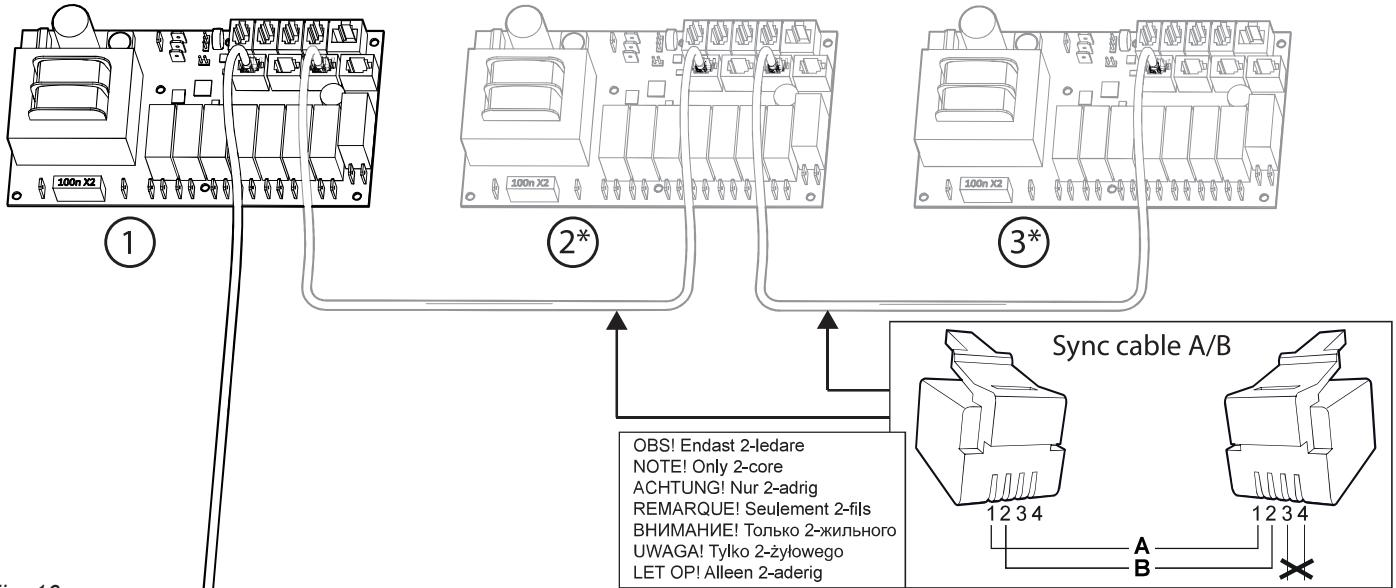
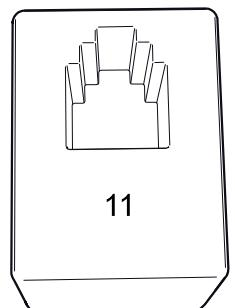

Fig. 16
Fig. 17
To connect the temperature sensor, etc., to the control panel with quick connectors, refer to the circuit board overview (Fig. 17). All the connectors must be in place before the power is switched on.
The connections between the generators use a low power cable (2 core, RJ10 2P4C A/B) with an RJ10 connector, (Fig. 16.) Refer to the section "Modular connector description" (Fig.17) for more information on the pin configuration.
If one steam generator needs servicing the others can remain in operation. One generator that is set as a secondary is disconnected by removing the cable from between the circuit boards. (Fig. 16)
2. Disconnect the cable that connects the control circuit boards (Fig. 16)